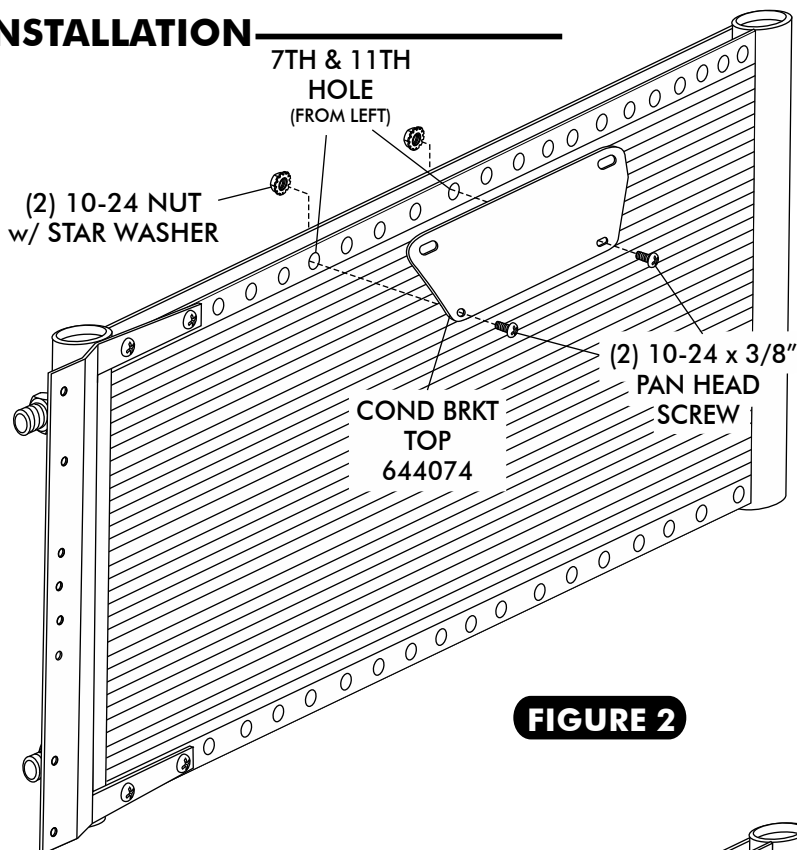

FIGURE 2
- INSTALL TOP MOUNTING BRACKET ON TO CONDENSER USING (2) 10-24 x 3/8" PAN HEAD SCREWS AND (2) 10-24 NUTS WITH STAR WASHERS. SEE FIGURE 2 BELOW. **NOTE: BRACKET MOUNT THROUGH THE 7TH HOLE FROM THE LEFT SIDE OF THE CONDENSER.**